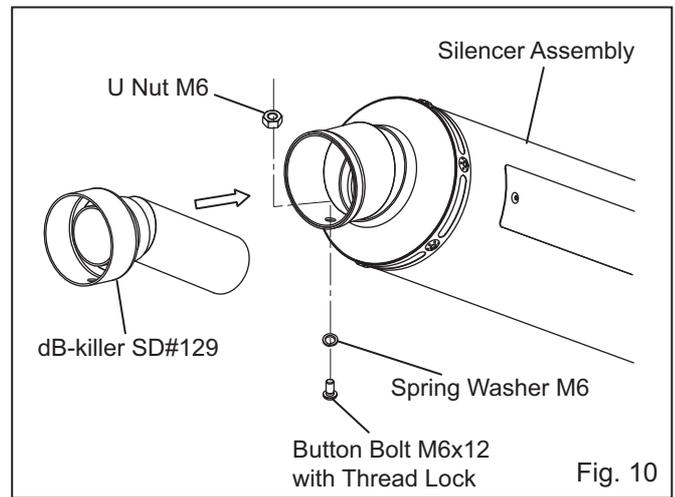

Fig. 10
- 11) In accordance with necessity, mount dB-killer SD#129 to Silencer Assembly using U Nut M6, Spring Washer M6 and Button Bolt M6x12 with Thread Lock. (See Fig 10)